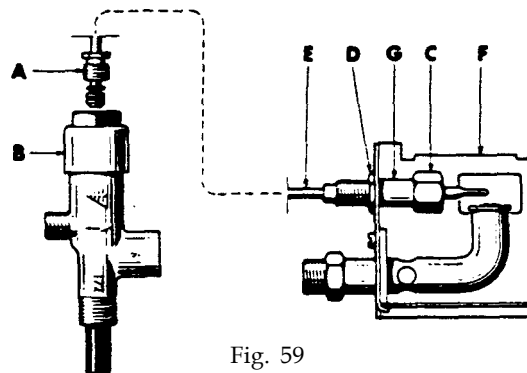

Fig. 59
**How** replace the thermo-element of the thermoelectric flame failure safety device (see fig. 59).